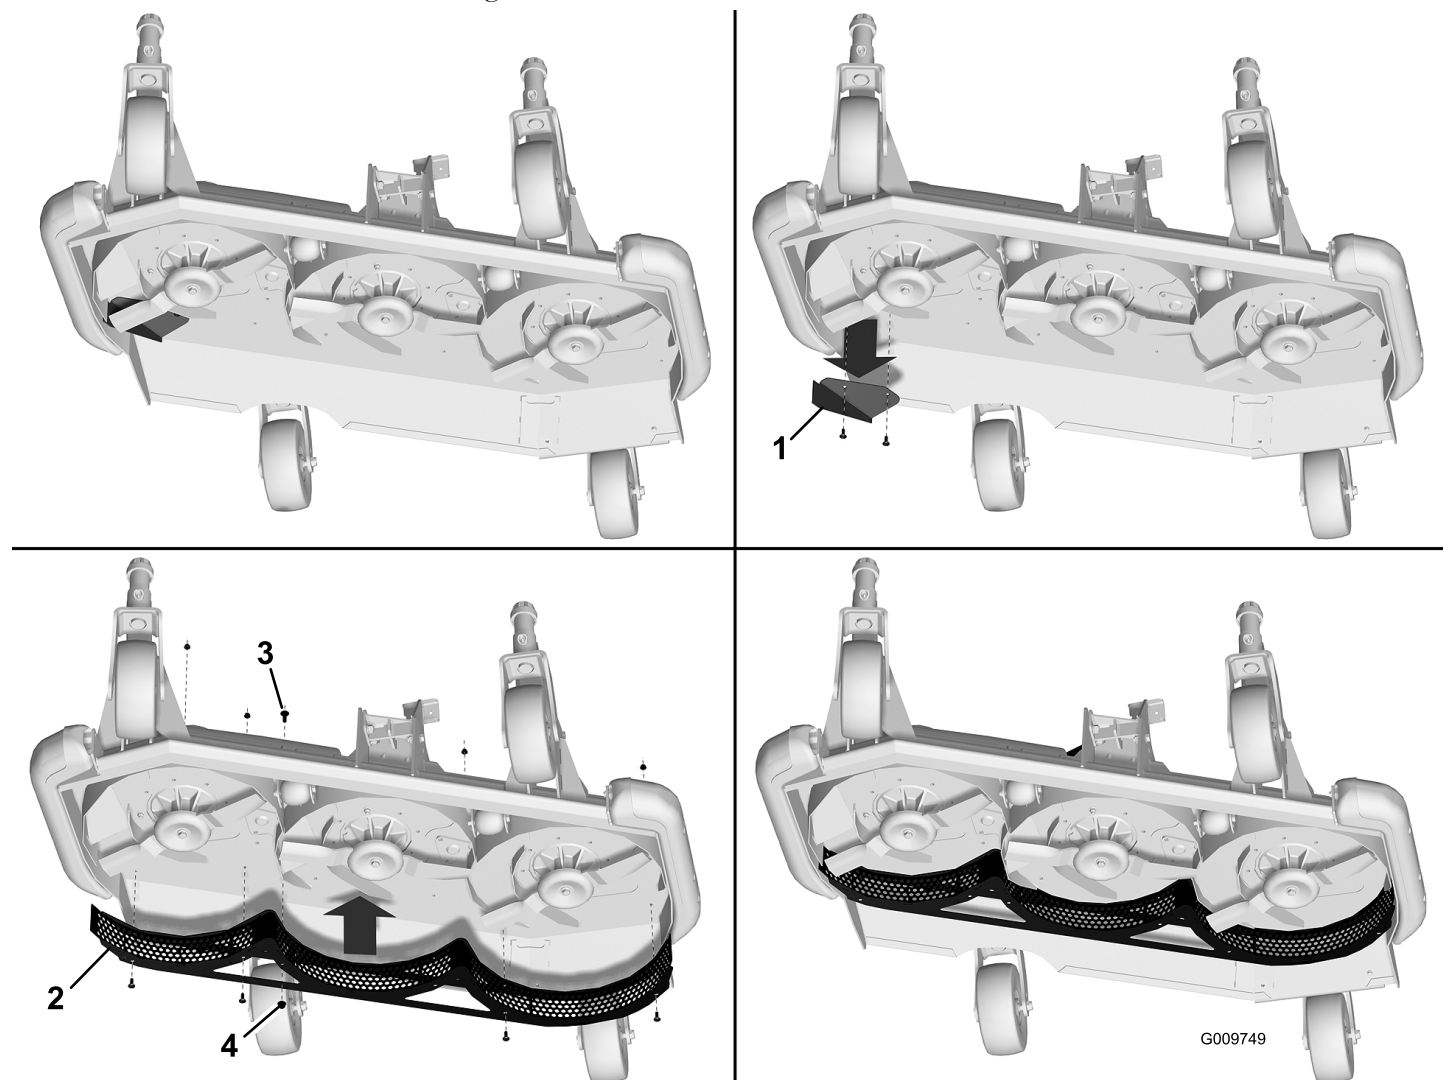

Figure 2
1. Remove the deflector from the right side of the deck (Figure 2). Retain the deflector and fasteners to reinstall to deck when leaf mulching kit is removed.
2. Install a wing deck baffle into the mower deck and align it with the mounting holes (Figure 2).
3. Loosely secure the baffle to the mower deck with 6 carriage bolts and nuts as shown in Figure 2.
**Note:** One of the carriage bolts, shown in Figure 2, is to be installed with the head positioned on top of the mower deck. The remaining carriage bolts should be installed with the bolt heads positioned under the mower deck.